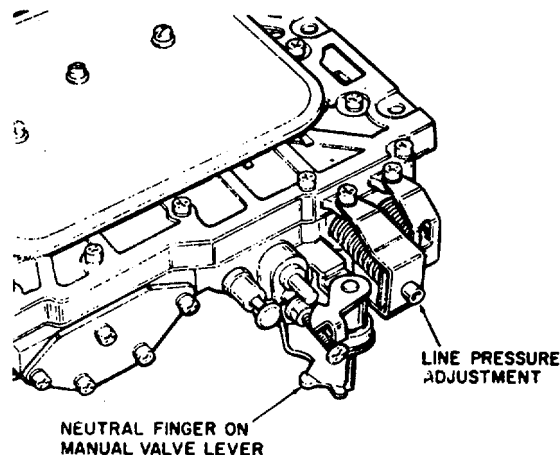

Figure 5-16. Neutral Starting Finger
- (c) Unscrew the switch from the transmission case allowing the fluid to drain into a container. Move selector lever to the Neutral position, and inspect to see that the switch operating lever finger (figure 5-16) is centered in the switch opening in the case.